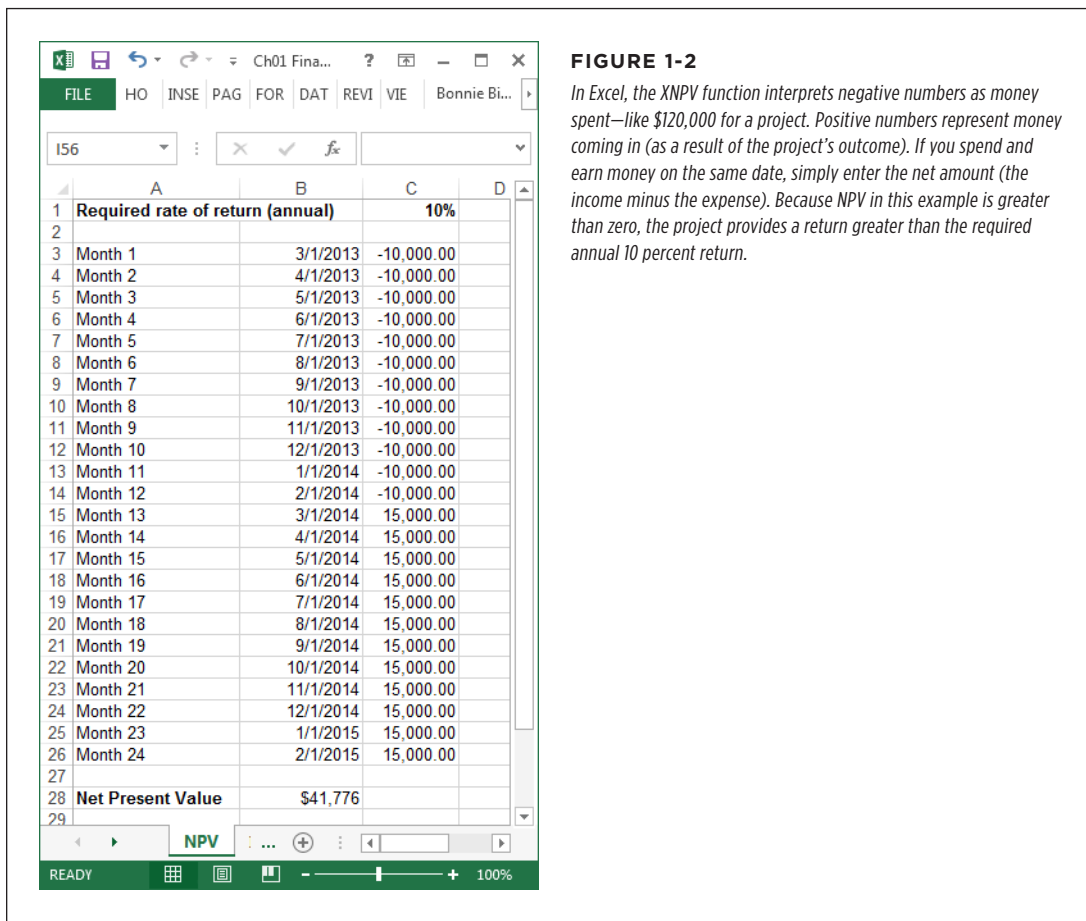

FIGURE 1-2
NPV starts by combining a project's income (earnings or savings) and costs into *cash flows*. (For instance, if you earn \$4,000 a month and spend \$3,000 on living expenses, then your net cash flow is \$1,000.) Then, NPV uses a rate of return to translate the cash flows into a single value in today's dollars. If NPV is greater than zero, then the project earns more than that rate of return. If NPV is less than zero, then the project's return is lower. Where does this magical rate of return come from? In most cases, you use the rate of return that your company requires on money it invests. For example, if your company demands a 10 percent return to invest in a project, you use 10 percent in the NPV calculation. If the NPV is greater than zero, then the project passes the company's investment test. Figure 1-2 shows the NPV of a project that costs \$10,000 each month for a year and then earns \$15,000 each month for a year after it's finished.
- 1. In an Excel workbook, fill in one cell with the annual rate of return you want to use, and then enter the cash flows and dates in two of the workbook columns, as shown in Figure 1-2.**
2. **Select a blank cell where you want to insert the function (like cell B28 in Figure 1-2), and then click the Formulas tab. On the left side of the ribbon, click Insert Function.**
To fill in an argument, click a box, such as Rate. Then, in the worksheet, click the cell (or cells) that contain the input. For example, for Values, you can drag over all the cells that contain the cash flows (in Figure 1-2, that’s cells C3-C26).